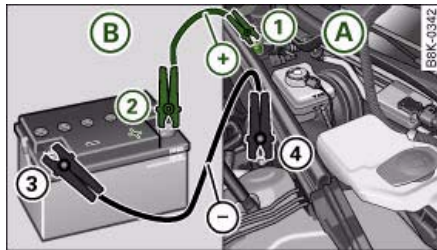

Fig. 279 Jump-starting with the battery of another vehicle: A - Discharged battery, B - Boosting battery
1. Connect one end of the lead to the **jump-start terminal** ⇒ fig. 279 ① (terminal under red cap = “positive”) of the vehicle with the flat battery ④.
2. Connect the other end of the positive lead to the positive terminal ② of the boosting battery ③.